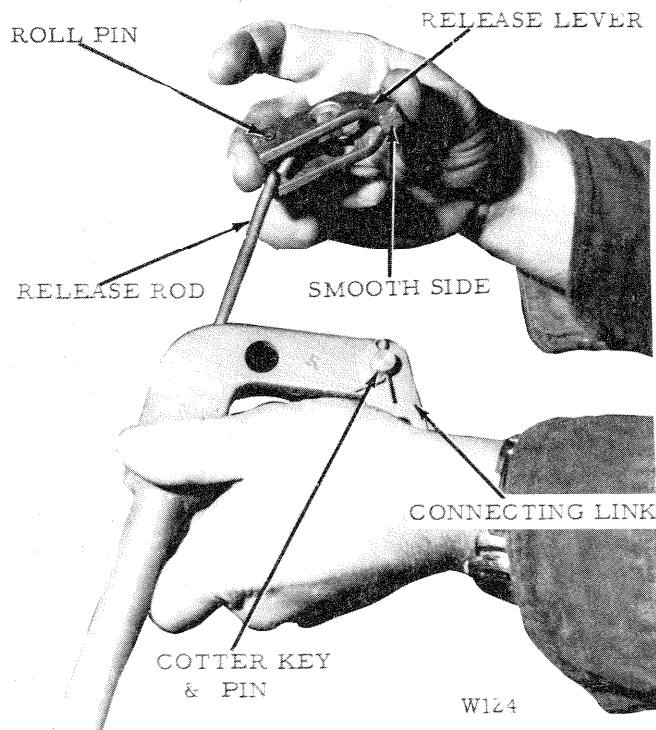

Figure 9
b. Lift the release rod and lever assembly out of the inching lever. Press the roll pin out of the release lever. Remove the cotter keys and pins retaining the connecting links. Fig. 9.
1. Connect the release lever to the release rod with the roll pin, making sure the smooth side of the lever is "up" and the slot in the roll pin "down". Fig. 9.
3. Attach the two connecting links to the inching lever with pins and cotter keys. Slide the release rod assembly into the lever and screw the knob onto the threaded end. Figs. 9 and 8.